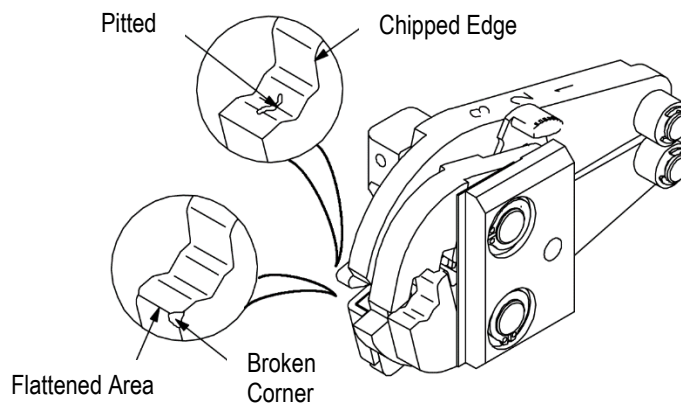

Figure 7
4. Inspect crimp area for flattened, chipped, or broken areas (see Figure 7). Replace worn or damaged parts.